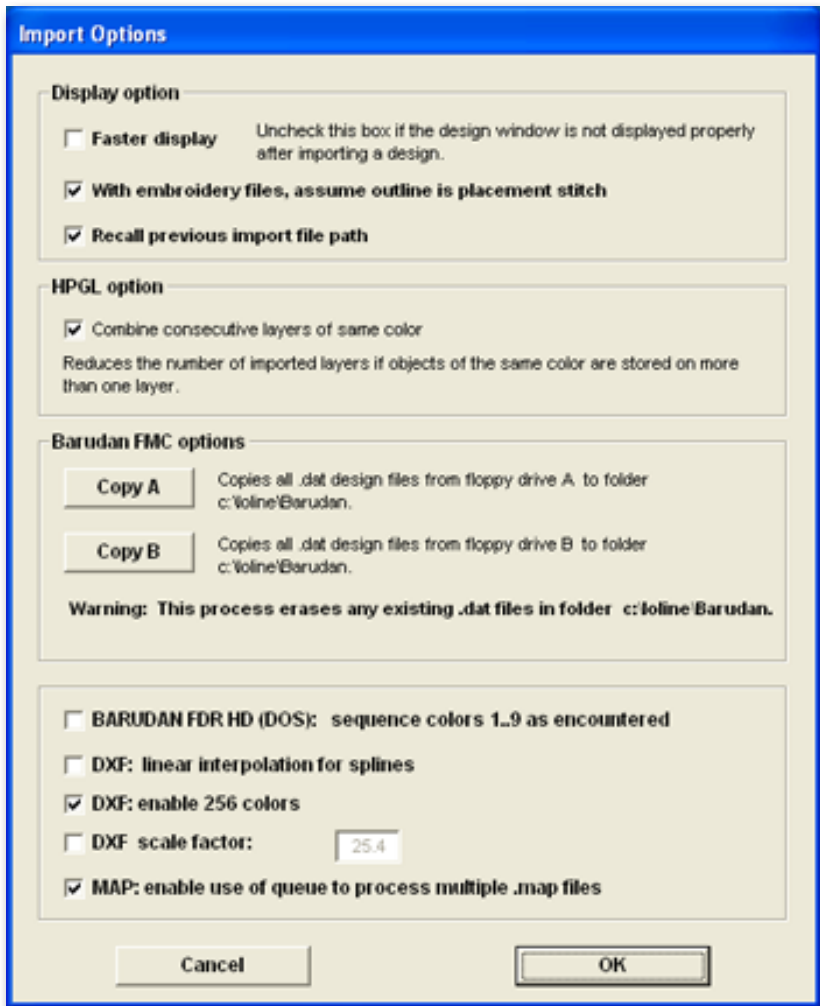

Figure 6: Select import options prior to importing the design file.
2. Check the Import Options by pressing the button and reading the descriptions (Figure 6).